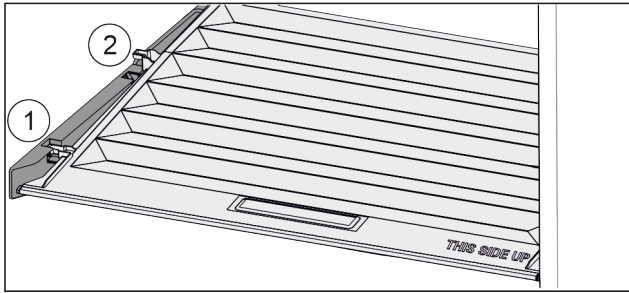

Fig. 32
- ▶ Pull the lid up at the front to the opening in the retaining parts Fig. 32 (1).
- ▶ Lift from the back and pull it up and out Fig. 32 (2).